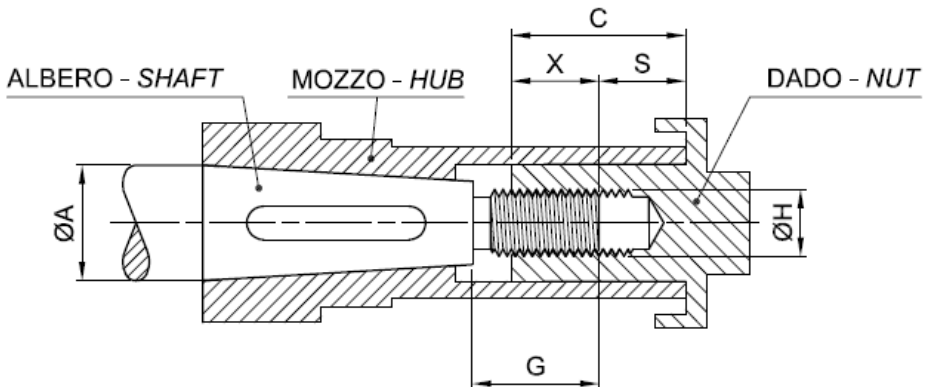

fig. 1
- b. Check the screwing length of the nut (refer to fig.1 where the screwing length is indicated with "X"). To check this we suggest inserting the propeller onto the conical end of the propeller shaft and pushing it against the cone of the shaft (carry out this operation without inserting the key). When the propeller is against the shaft cone, measure the distance between the end of the shaft and the end of the hub (indicated in the figure with "S"). The length "X" is obtained by subtracting the length "S" from the length of the nut "C". "X" must be less than "G" and it is recommended that "X" is greater than 0.8 times the thread diameter indicated with " $\varnothing H$ ".